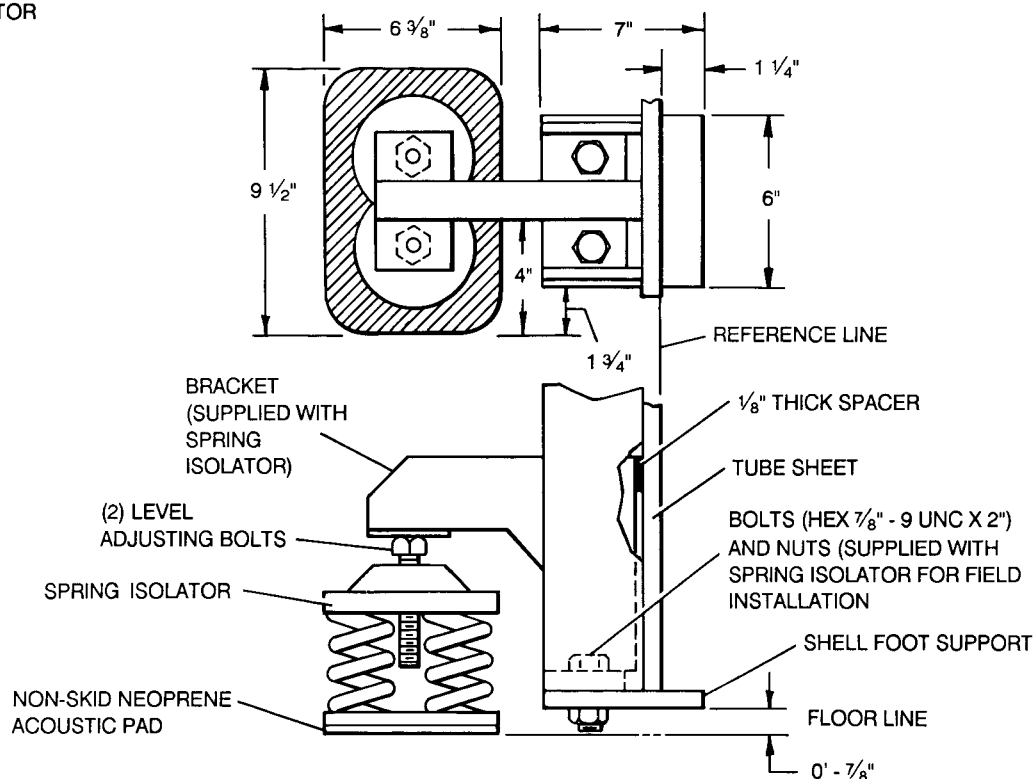

FIG. 7 — INSTALLATION AND ADJUSTMENT OF (OPTIONAL) SPRING ISOLATORS
## LOCATING AND INSTALLING OPTIONAL SPRING ISOLATORS (Refer to Fig. 7 & Form 160.65-PA1.1)
Install the four (4) high efficiency spring vibration isolator assemblies on the unit after the unit has been properly located. Assemble the optional spring isolators per Fig. 7. After assembly of the spring isolators has been completed turn down the jacking screw of each isolator until the bottom of the shell foot support is about 7/8" of the floor. The isolator jacking screws should be well lubricated when received from the factory. If the screws are not well lubricated the following lubricants are recommended: